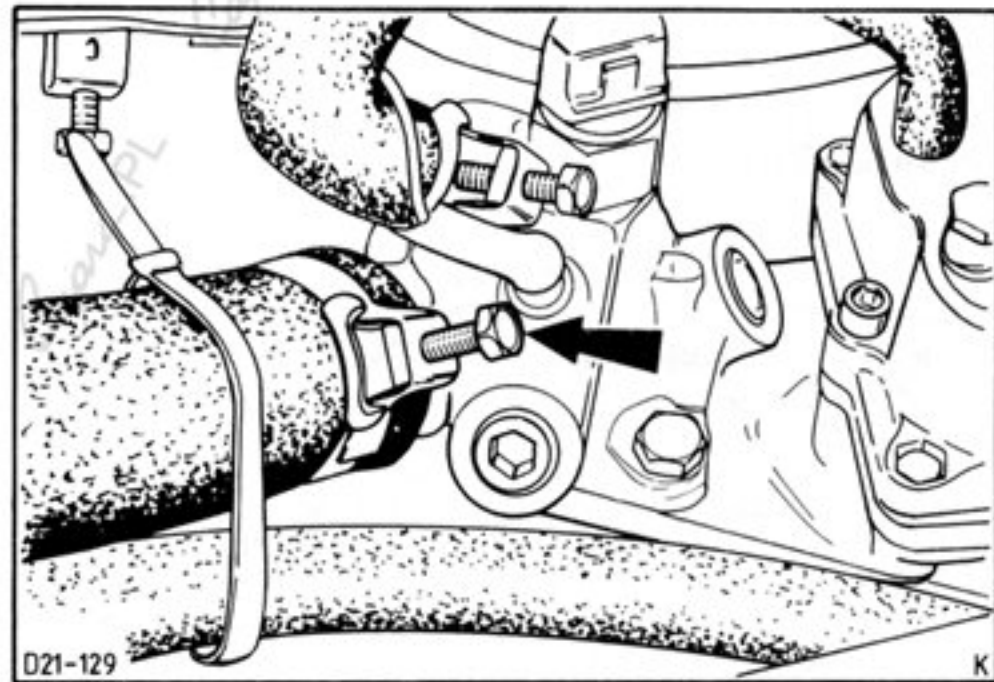

Fig.101. Fix upper radiator hose.
34. Fix upper and lower radiator hoses, Fig.101, and fill with coolant.